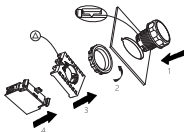
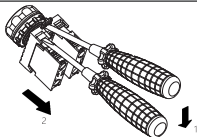

Figure 3 Assembly process
Figure 5 Dismantle the contact assembly and operation head
4) See Figure 3 - Figure 5 for assembly and disassembly drawings
| The actuator of the button cannot be fixed or pulled out | The installation direction of the actuator and central adapter is not correct. | Align the triangle part on the side of the actuator with the triangle part on the central adapter before putting it in, see Figure 3. |